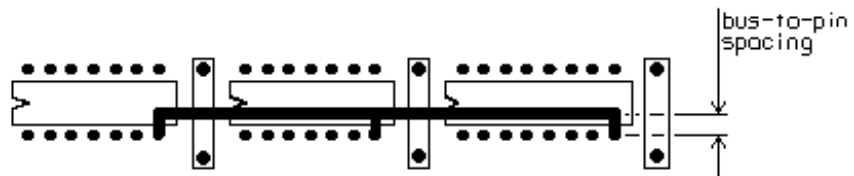

Figure 34
This value defines the distance between the imaginary bus lines that were drawn and maintained as described for the *Minimum bus spacing*, and the centre of the actual routed power bus rails. Spurs are then used to join the bus and pads together, as shown in Figure 34.
**DIL Preference** in Figure 34 the power busses have been inserted under the dual-in-line components. This setting controls whether the power busses are placed underneath or outside the dual-in-line components.